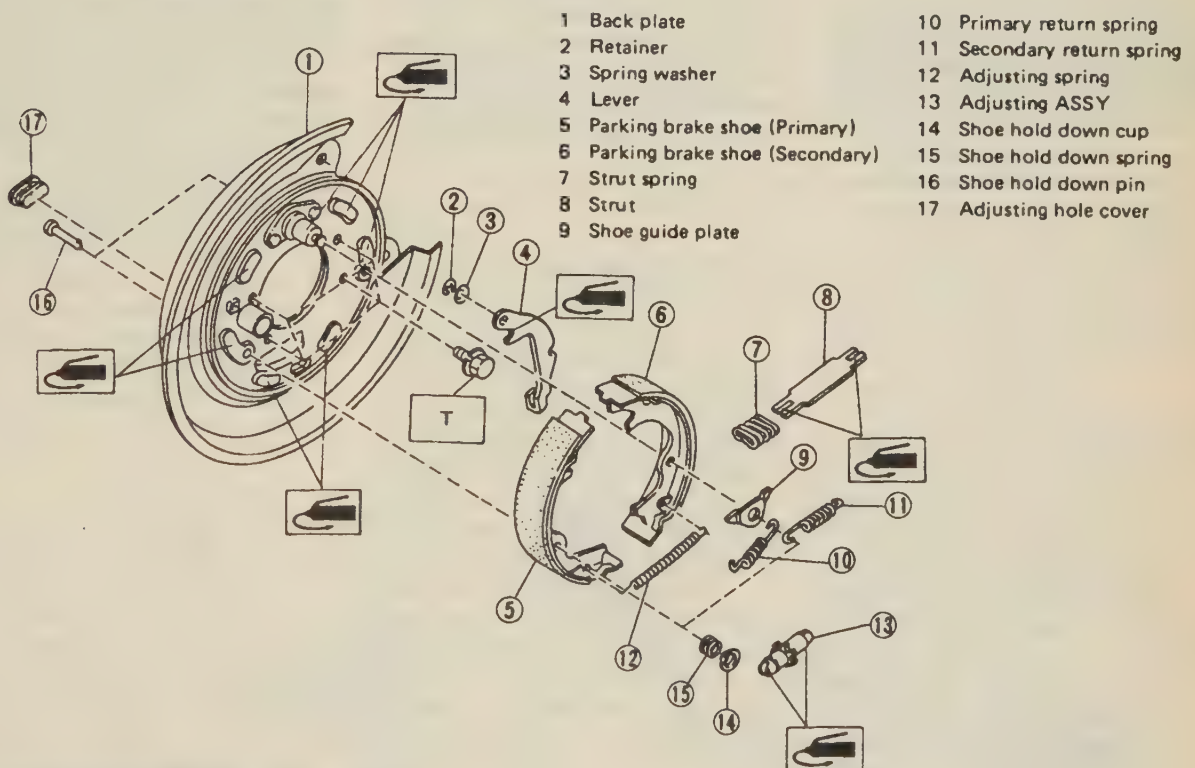

FIG. 46 Parking brake components — Legacy and SVX
8. Apply a light coating of grease to the points shown in FIG. 46. Install the parking brake lever on the shoe.